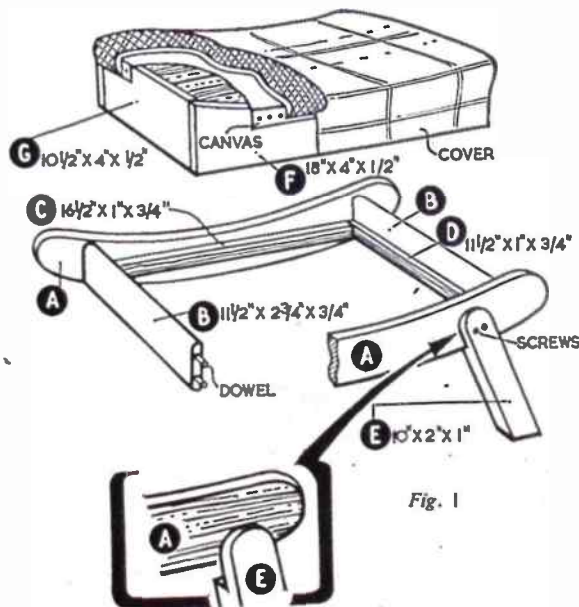
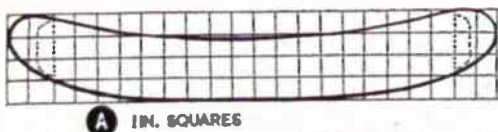

Fig. 1
Fig. 2
The exploded diagram in Fig. 1 shows the entire construction. Note that the side (A) is broken away to show the dowels in the end rails (B). These should be let into side (A) to a
The sides and end rails are cut from $\frac{1}{2}$ in. thick timber, the lengths being given in Fig. 1. The exact shape of the sides is shown in Fig. 2. Enlarge the squares to 1 in. and draw in the shape carefully. It will save time if you draw half in, trace, and transfer the other half.
After shaping the dowels, the sides and end rails are glued together and cramped up until dry. Meanwhile cut the supporting strips (C) and (D) and drill them ready for screwing to the inside of pieces (d) and (B) as shown in Fig. 1.
The top is made up in the form of an open box which is shaped as shown in Fig. 1. It can be nailed and glued together. It is then covered with stout canvas over which is placed foam rubber or flock padding. This in turn is covered by a piece of material and finally the covering material proper. The latter will be tacked underneath using a minimum of tacks so that it can easily be removed for cleaning. Finish off by coating exposed parts with clear lacquer or wax polish. (M.h.)